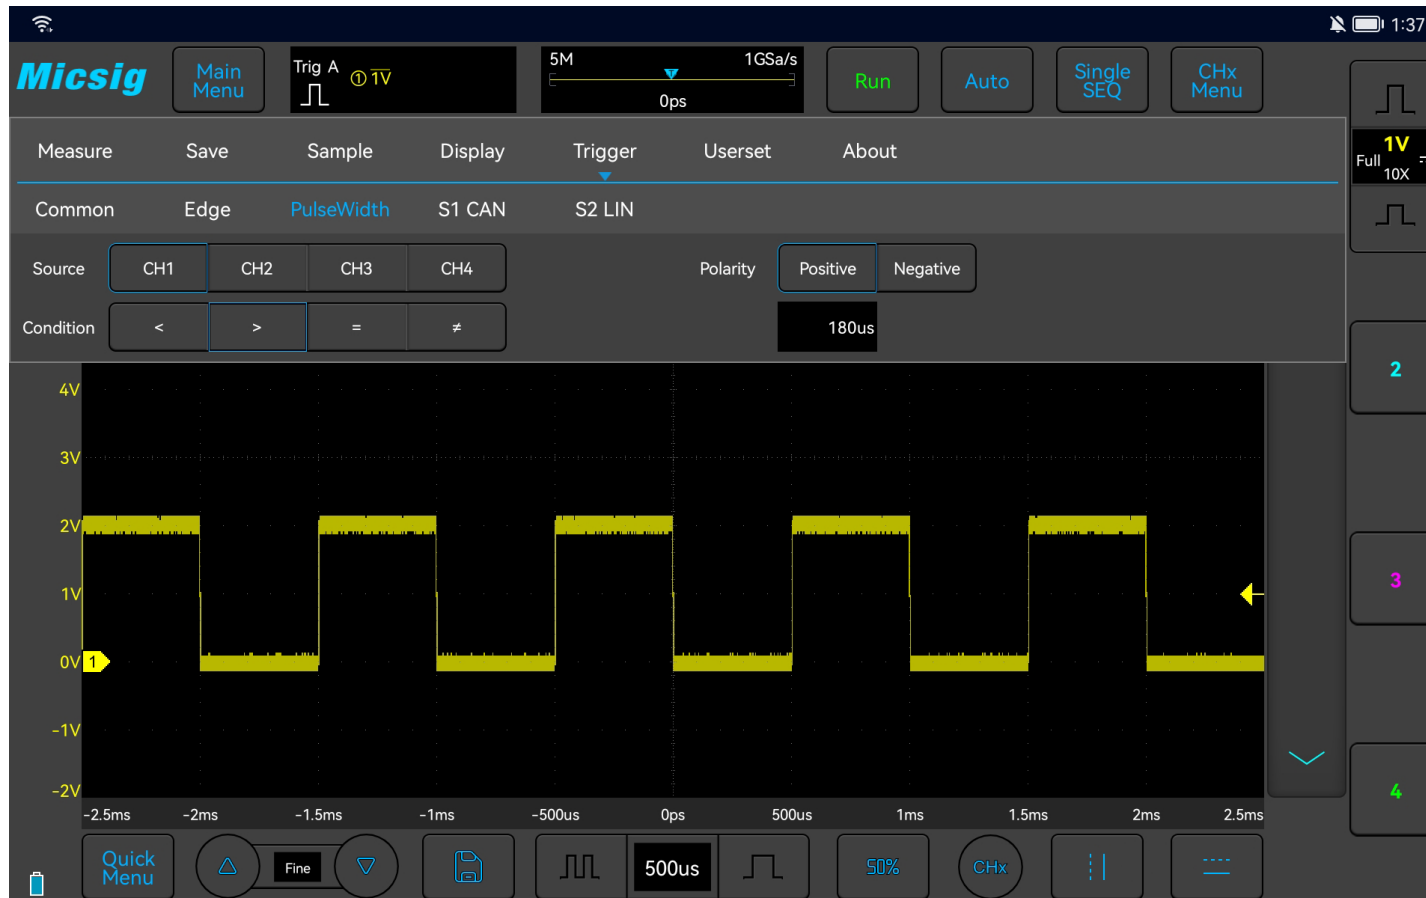

Figure 5-13 Pulse Width Trigger Setting Menu
- 1) Tap “Trigger” on the main menu to open the trigger menu, select the pulse width trigger in the trigger type, and set the pulse width trigger as follows, as shown in Figure 5-13: